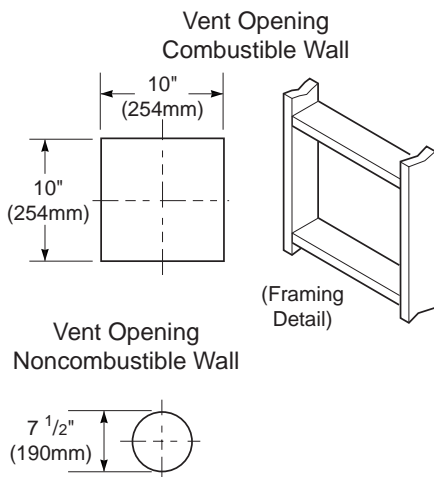
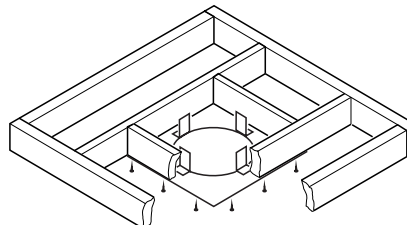

Figure 12 - Vent Opening Requirements
Figure 22 - Installing Firestop
- Attach vent pipe assembly to the fireplace. Set fireplace in front of its permanent location to insure minimum clearances. Mark the wall for a 10" square hole (for noncombustible material such as masonry block or concrete, a 7 1/2" diameter hole is acceptable). See Figure 12. The center of the hole should line up with the center-line of the horizontal rigid vent pipe. Cut a 10"x10" (254mm x 254mm) square hole through combustible exterior wall (7 1/2" [190mm] diameter hole if non-combustible). Frame as necessary (see Figure 12).
1. Cut a 10" square hole in the ceiling using the locating hole as a center point. The opening should be framed to 10"x10" (254mm x 254mm) inside dimensions, as shown in Figure 12 on page 9 using framing lumber the same size as the ceiling joists. If the area above the ceiling is an insulated ceiling or a room, nail firestop from the top side. This prevents loose insulation from falling into the required clearance space. Otherwise, install firestop below the framed hole. The firestop should be installed with no less than three nails per side (see Figure 22).
3. Cut a hole in the roof using the locating hole as a center point. (Cover any exposed open vent pipes before cutting hole in roof.) The 10"x10" hole must be measured on the horizontal; actual length may be larger depending on the pitch of the roof. There must be a 1" clearance from the vent pipe to combustible materials. Frame the opening as shown in Figure 12, page 9.